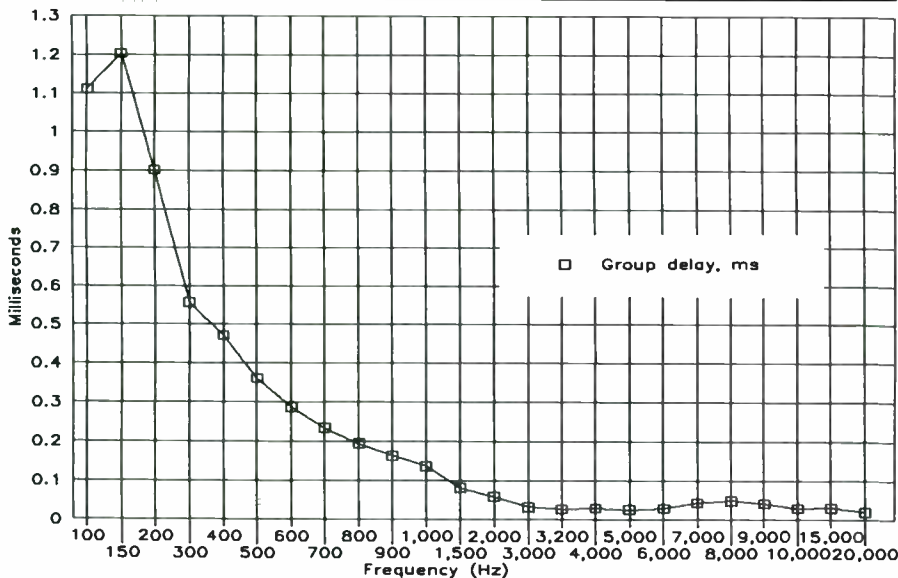

FIGURE 22: Danielle group delay versus frequency (note linearity above 1kHz).
0.026mS at the crossover frequency, and this delay is nearly linear with frequency. Figure 22 shows a plot of group delay versus frequency that I made working from the CALSOD results, using the LDP group delay graphing program.